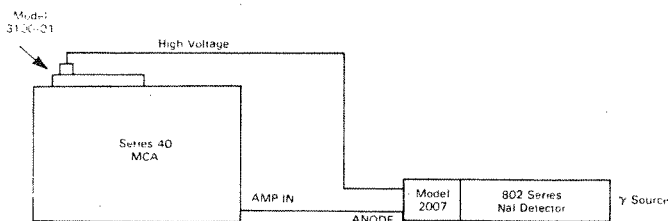

Figure 3-1
- Cables for interconnection as shown in Figure 3-1.